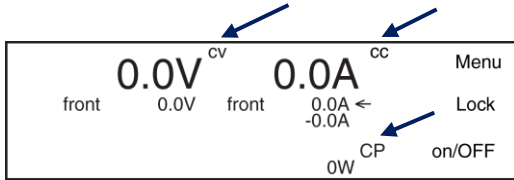

Figure 7.19: A unit is either in CV, CC or CP mode, indicated next to the actual values of respectively the output voltage, output current or the output power.
- Depending on the load and the settings, the unit will be either in CV, CC or in CP mode. See Figure 7.19.